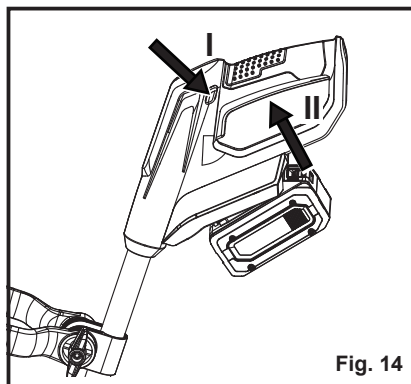

Fig. 14
5. To start the tiller, first press the lock-off switch on the main handle and hold it in position. Press the on/off switch to switch the tiller on (Fig. 14). Once started release the lock-off switch.